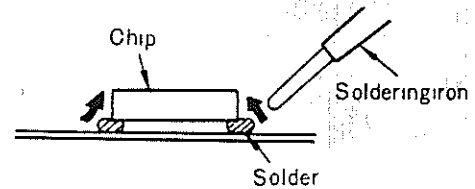

Fig. 30
3. Solder circuit board first and then solder chip in the direction of the arrow as shown in fig.30.